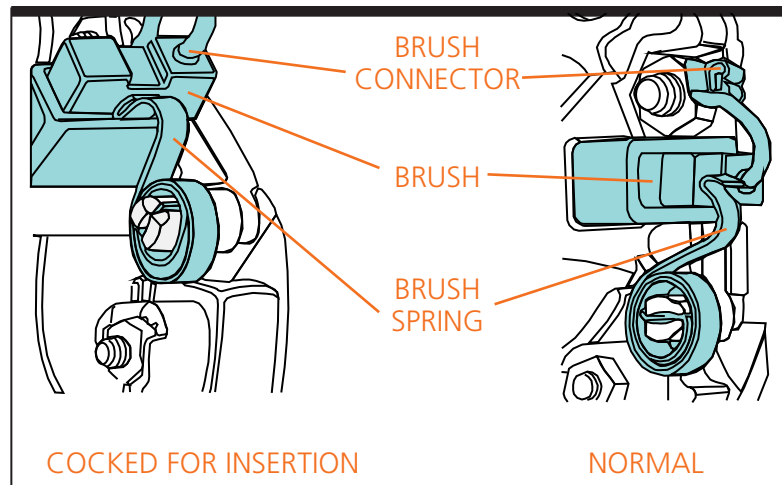

Figure 4-5. DC Motor Brushes with Gasketed Cover Removed
Step 3—Replace Brushes. Lift the brush spring from the end of the brush (see Figure 4-5). Remove the brush connector, withdraw